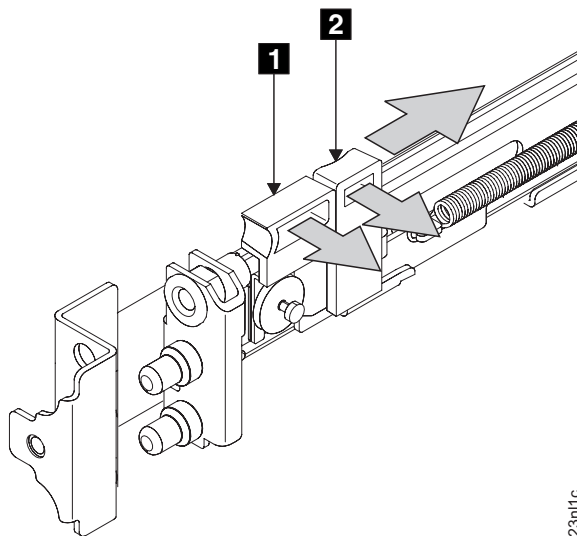

Figure 75. Opening the front latch-lock carrier assembly
3. Gently push the latch lock **2** away from the rail as you move the latch lever **1** toward the far end of the rail (Figure 75). The latch-lock carrier assembly slides against the spring tension.